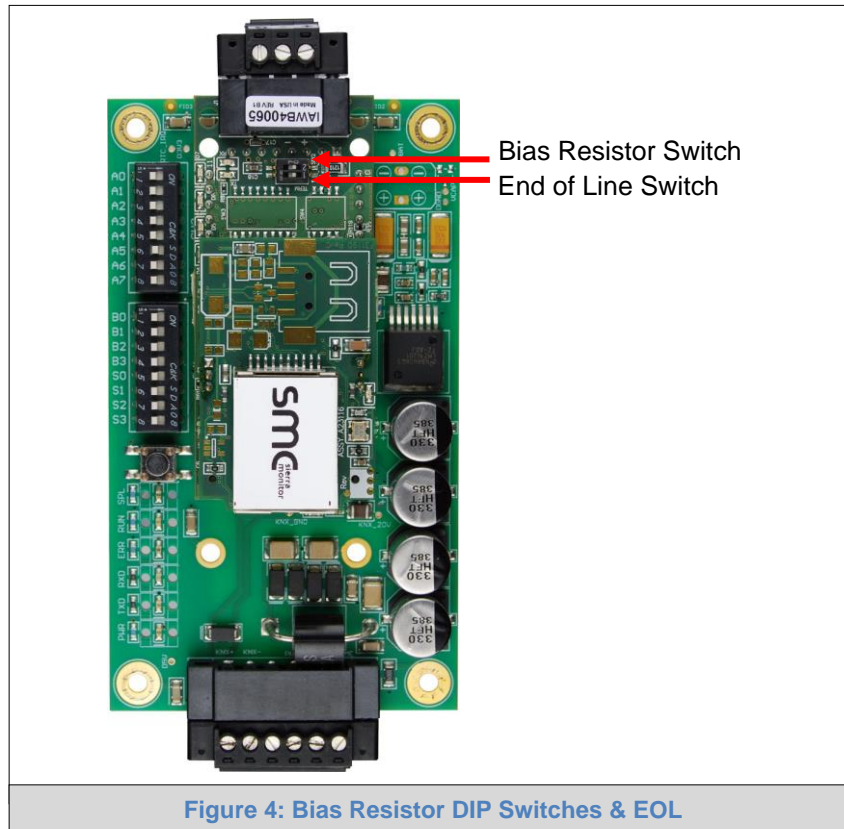

Figure 4: Bias Resistor DIP Switches & EOL
- If more than one RS-485 device is connected to the network, then the field bias resistor switch needs to be enabled to ensure proper communication. **See Figure 4 for the orientation of switch positions referenced below.**
- If the FieldServer is the last device on the trunk, then the end of line (EOL) termination switch needs to be enabled. **See Figure 4 for the orientation of switch positions referenced below.**